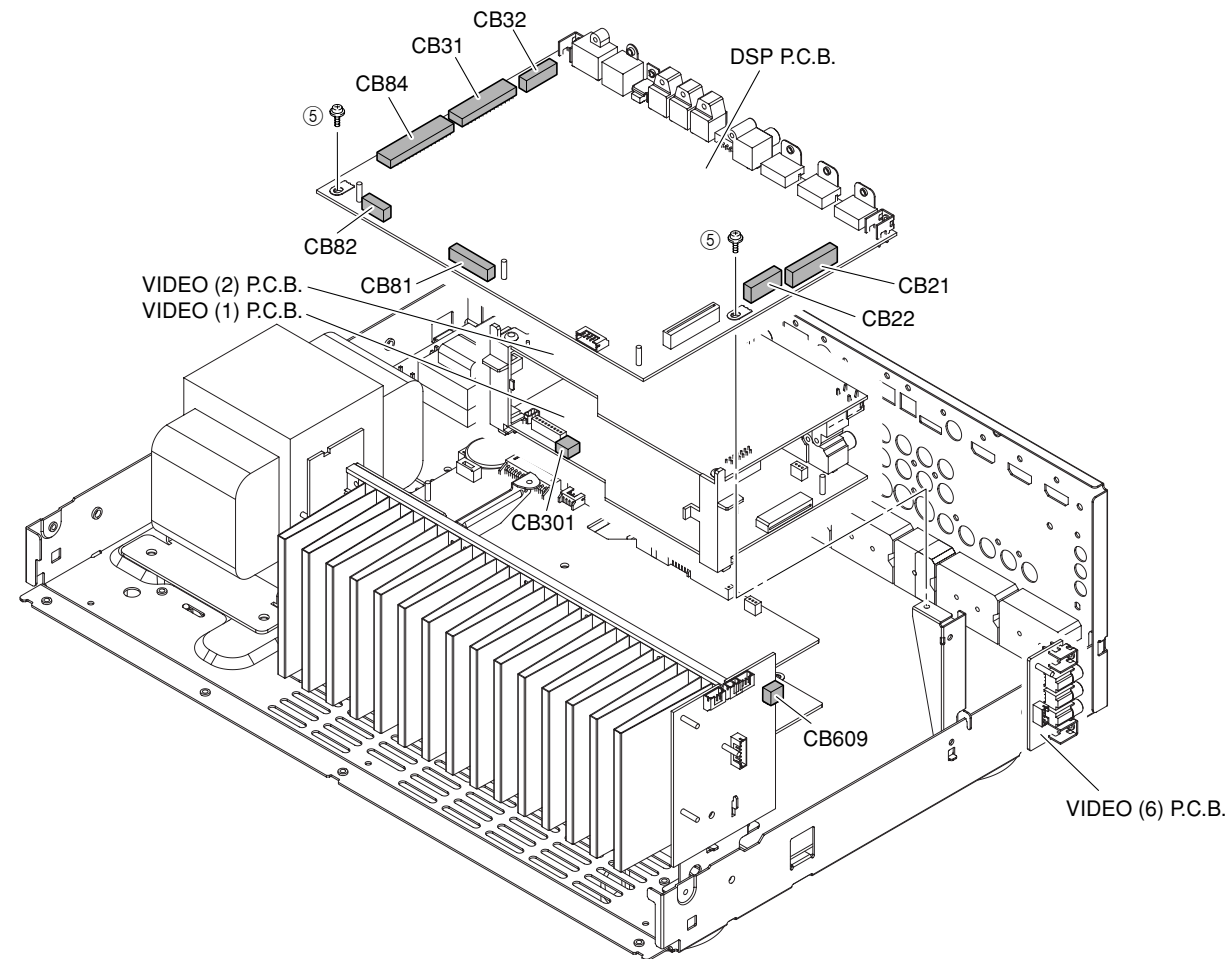

Fig. 2
- Remove 2 screws (5). (Fig. 2)
- Remove CB21, CB22, CB31, CB32, CB81, CB82 and CB84. (Fig. 2)
- Remove DSP P.C.B. (Fig. 2)
- Remove VIDEO (6) P.C.B. (Fig. 2)
- Remove CB301 and CB609. (Fig. 2)
- Remove VIDEO (1) and (2) P.C.B.s. (Fig. 2)